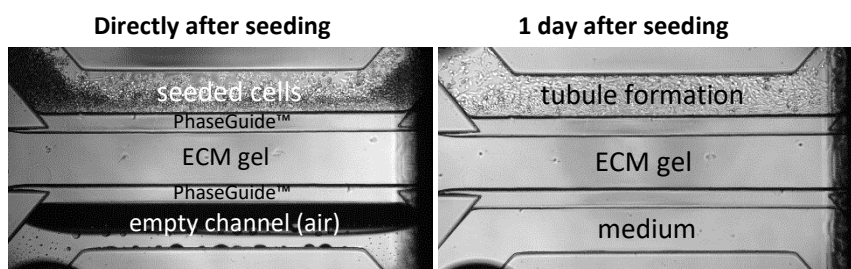

Figure 8: Kidney epithelial cells form a tubule against an ECM gel in the OrganoPlate® 3-lane
- For examples of dried out gel, see section 5. Trouble Shooting, figure 8.
An example of a tubule culture against ECM in the OrganoPlate® 3-lane is shown in figure 8.